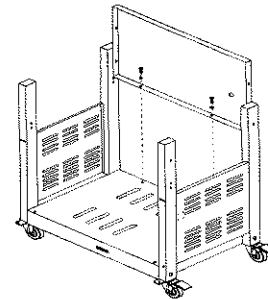

Figure 3
3. Attach back panel to bottom shelf by using $\frac{5}{32}$ " x 15mm philips head screws. (Fig.3)